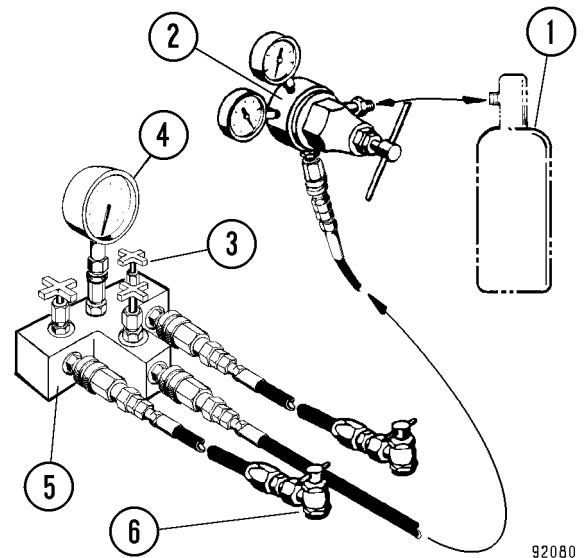

FIGURE 3-20. NITROGEN CHARGING KIT
4. Close all shutoff valves on brake manifold (4, Figure 3-20).
5. Connect the charging kit to nitrogen container (1), and open the valve on the tank.
6. Turn the "T" handle on charging valve adapter (6) all the way out (counterclockwise).